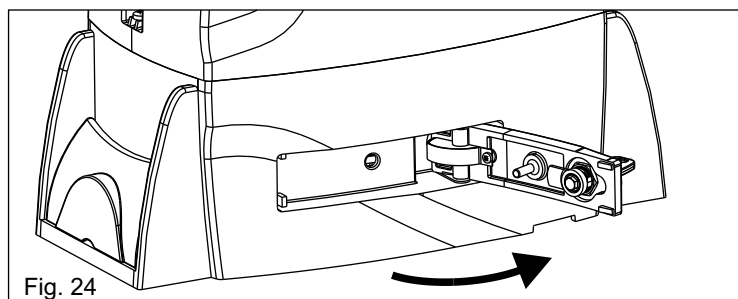

Fig. 24
- Pull the release lever until it stops, about 90° ( Fig. 24).